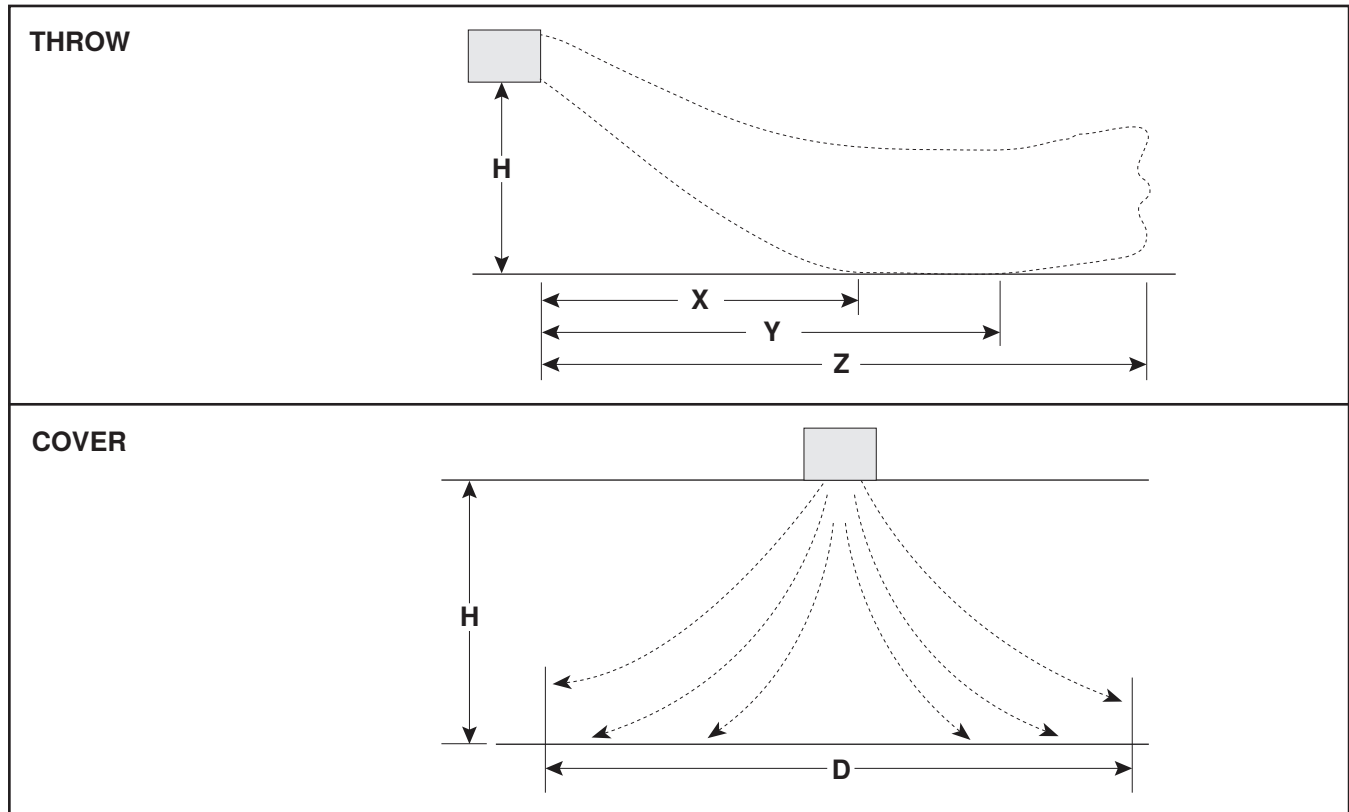

Figure 2. Heater Throw and Cover Patterns (Refer to Table 4)
**Figure 2** shows throw and cover patterns and **Table 4** lists throw and cover distances for heaters suspended at varying mounting heights and angles with either side discharge or down discharge. In the graphic and table below:
\*See Figure 2.